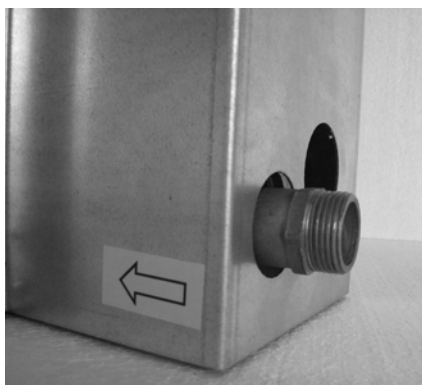
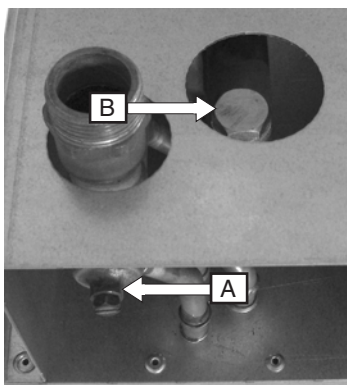
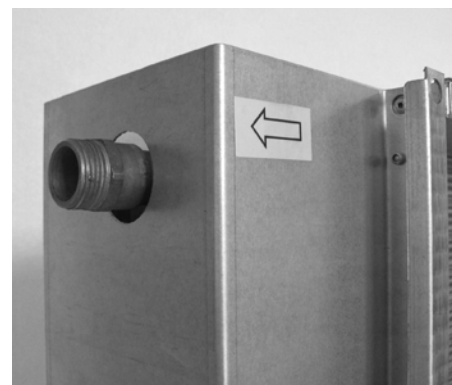

Fig. 1
Fig. 2
Fig. 3
If a frost protection sensor is to be used, the heater must be installed so that the connection with the “arrow to the finned coil” (Fig. 1) is in the lowest position.
In the case of installation in a horizontal duct, the heating coil can be drained of water via the drain nipple (marked A in Fig. 2) if the copper pipe of the fins is installed horizontally. Horizontal installation also facilitates bleeding of the heating coil.
3. The heater is provided with an outlet for a frost protection sensor, size R1/4, marked B in Fig. 2.
4. The water inlet must always be connected to the pipe marked “arrow to the finned coil” (Fig. 1) and the outlet to the pipe marked “arrow from the coil” (Fig. 3) if a frost protection sensor is to be used. If no frost protection sensor is to be used, the water inlet must be connected to the lowest connection pipe. The inlet is provided with a drain nipple, and the outlet has a bleed nipple, as shown in Figs. 2 and 4.